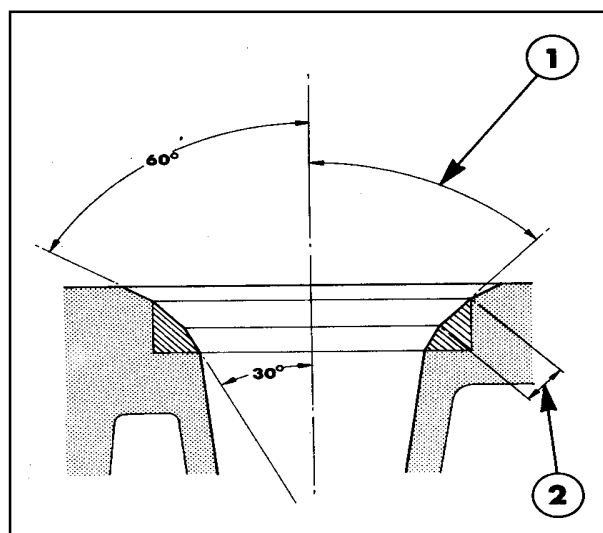

Figure 10
8. With reference to Figure 10. Use a 30° angle grinding wheel to remove stock from the top of the seats (lowers the seats), and use 60° angle wheel to remove stock from the bottom of the